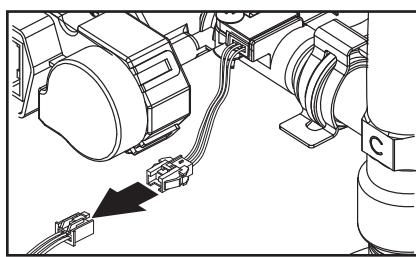

Figure 48 - Disconnect 3 Pin Wire Connector
- Disconnect the 3 pin wire harness. Connector will be located near the cold water supply opposite from Smart Valve as shown in Figure 48. Place wires aside in a safe location so they are not damaged.